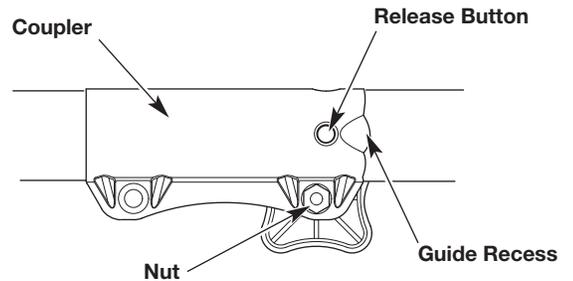

Fig. 2
**NOTE:** Aligning the release button with the guide recess will help installation (Fig. 2).
**NOTE:** Do not tighten the nut (Fig. 2).
2. Press and hold the release button (Fig. 2).